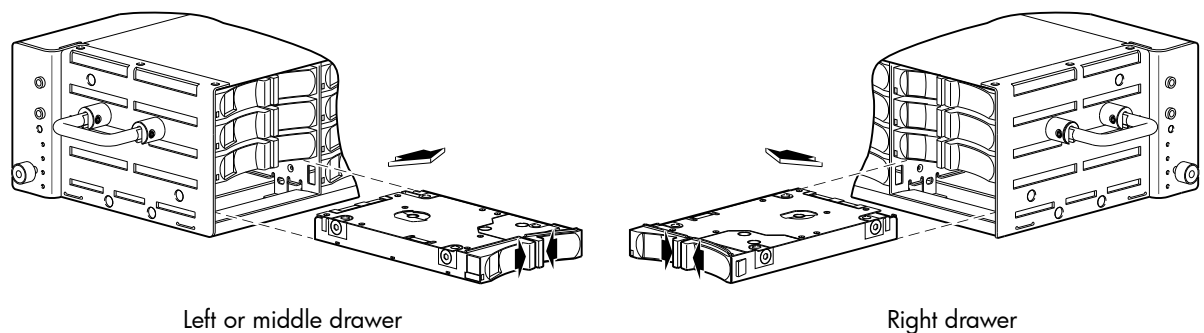

Figure 33 Removing a disk drive module (2U48)
3. Firmly grasp the front of the plastic sled, and pull the disk drive module straight out of the chassis, taking care not to drop the module (see illustration for appropriate drawer in Figure 33).